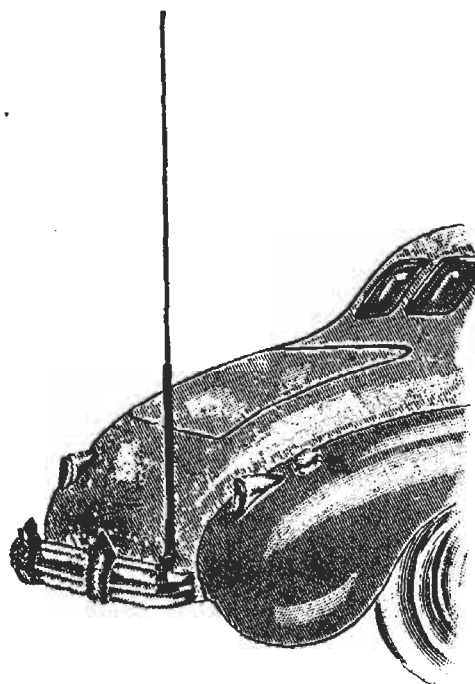

FIG. 9. A rear bumper whip-type antenna.
**Bumper and Cowl Types.** The whip antenna, which mounts on the rear bumper of a car (Fig. 9) can be extended to be six or eight feet long and gives rather good pickup. Its length and appearance do not add to its popularity, however.